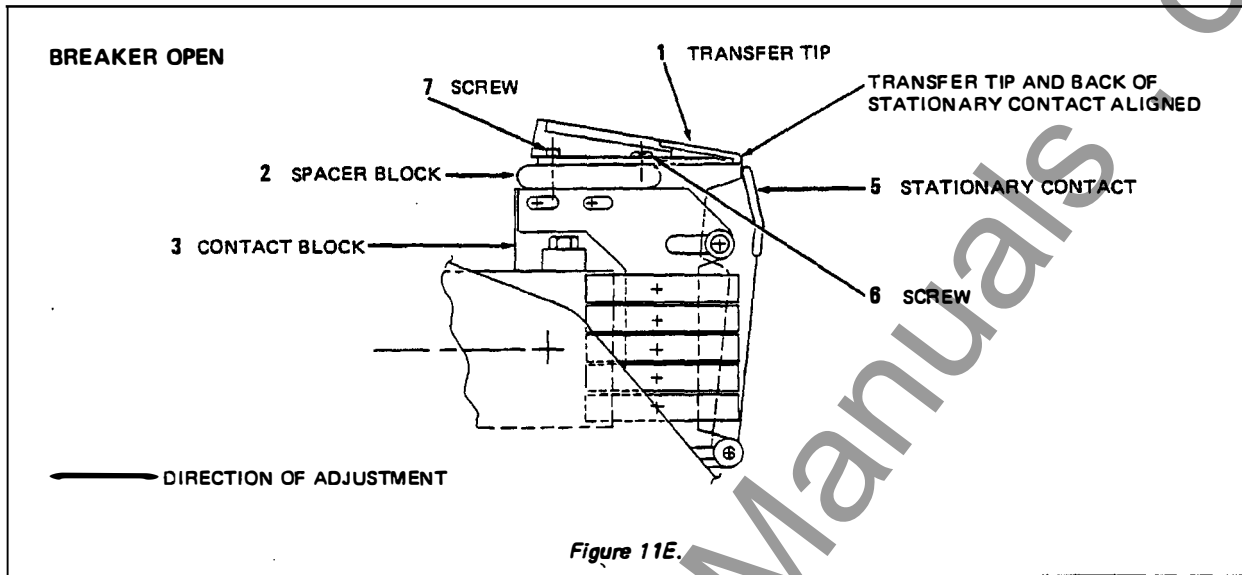

Figure 11E.
4. If the tip of the movable contact (4) is below the bottom line of the transfer tip (1) (no interference), open the breaker and adjust transfer tip (1) so that it is just behind the stationary contact (5, Figure 11E). Tighten screws (6 and 7).